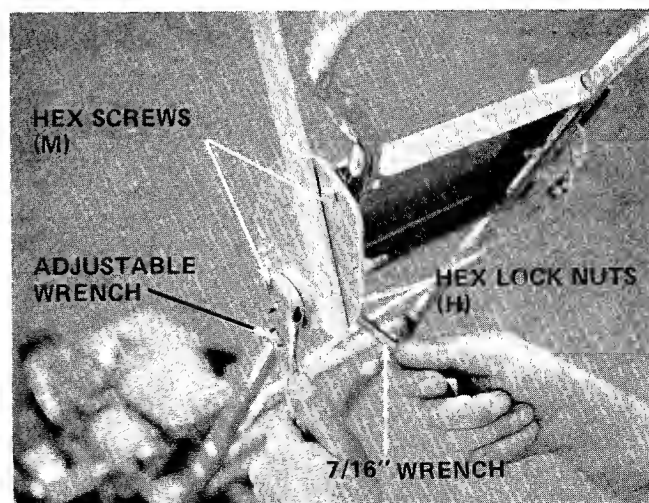

FIGURE 8.
8. Place throttle control lever up through slot in handle cover. Secure throttle control and handle cover with hex screw (G) and hex lock nut (H). An adjustable wrench and 7/16" wrench is required.
9. Place clutch handle and clutch plate on left hand side of upper handle as shown in figure 8. Secure in place with hex screws (M) through clutch plate, handle cover and upper handle. Secure hex screws with hex lock nuts (H). An adjustable wrench and 7/16" wrench are required.
10. Place throttle control knob (I) on throttle control lever.